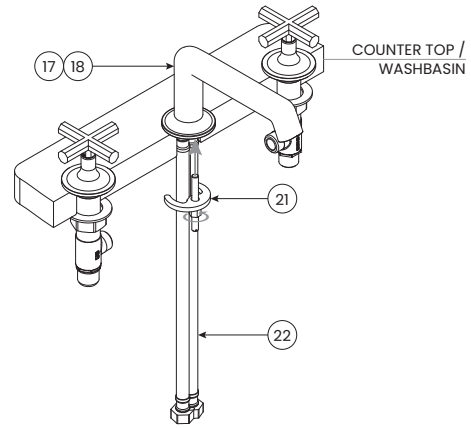

FIGURE 6.2
- 6.4 With Spout centered and aligned properly, tighten the Spout Mounting Hardware (21) against the counter top or washbasin using the nut as shown in Figure 6.2.